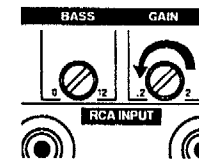

Figure 7
3. Turn the level setting adjustment on the MS-250 counter clockwise (i.e. to the left) until you hear the amplifier distort. The MS-250 "clips" very softly so this can sometimes be a difficult adjustment. Please listen carefully! (see Figure 7.)